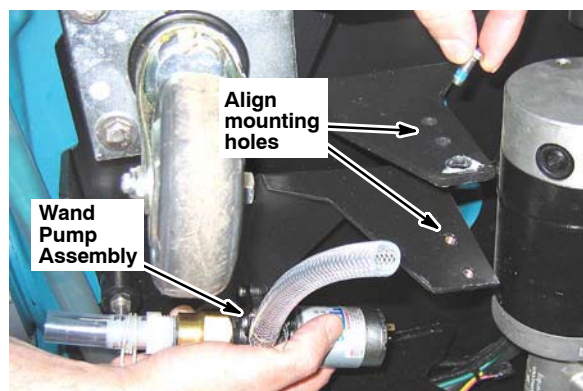

Fig. 2
6. Using the two screws and washers supplied with kit, connect the wand pump assembly to the machine frame as shown (Figure 2).